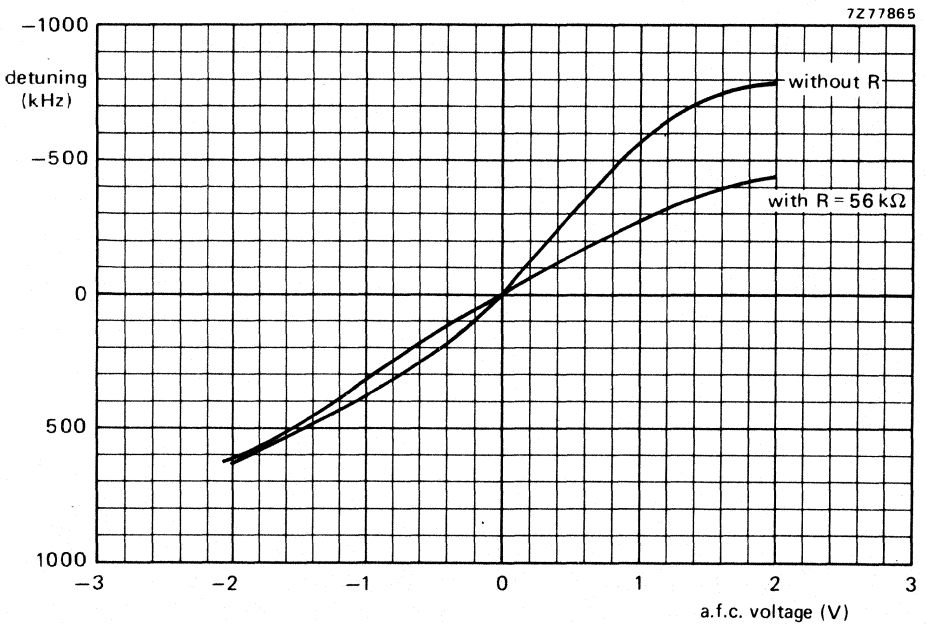

Fig. 5 Detuning as a function of a.f.c. voltage, measured with the measuring circuit shown in Fig. 6.
A.F.C. sensitivity	see Figs 5 and 6